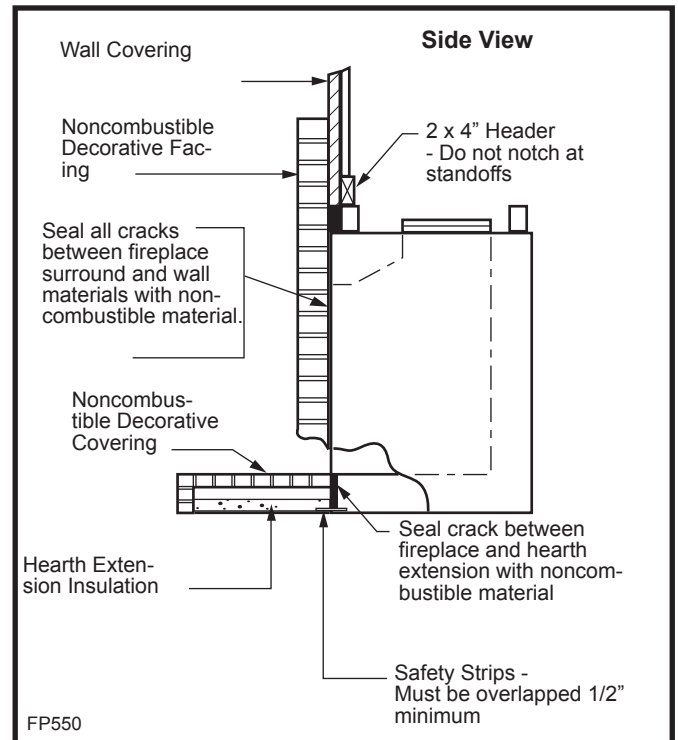

Fig. 23 Sealing gaps.
**WARNING: Hearth extension must be installed in accordance with Figure 23 and must not cover the bottom front opening of the circulating model.**